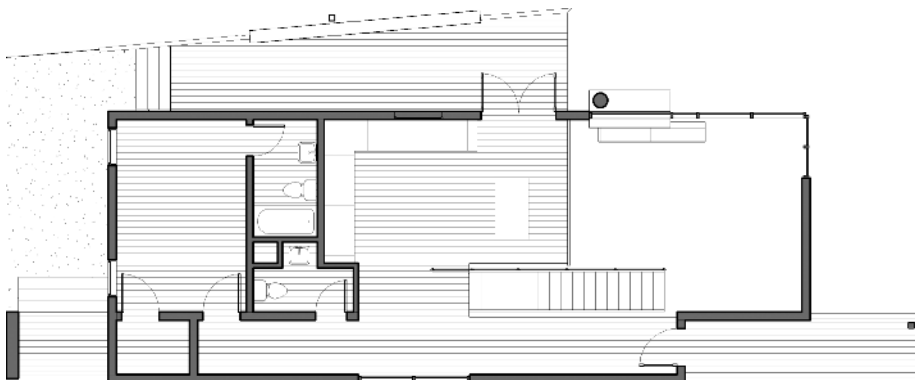

Figure 1.22 Image created through Revit's export feature
7. Click OK to create the Leve12.png image file (Figure 1.22).